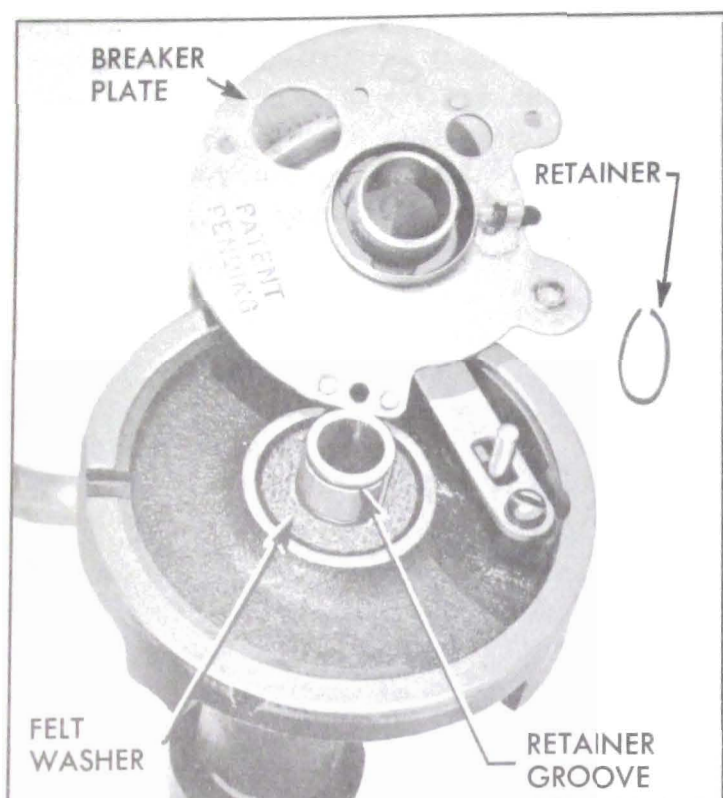

Figure 10-47—Installing Breaker Plate and Retainer
2. Install felt washer over upper bushing and apply a few drops of light oil. Then place breaker plate over upper bushing and vacuum advance link. Install retainer on upper bushing. See figure 10-47.